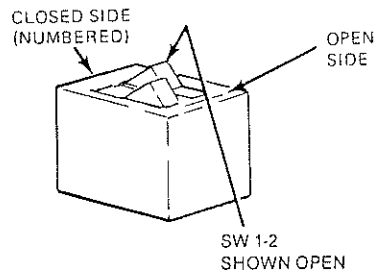

Figure 12.
- Using a small screwdriver or similar tool, close SW1-2. Refer to Figure 12.